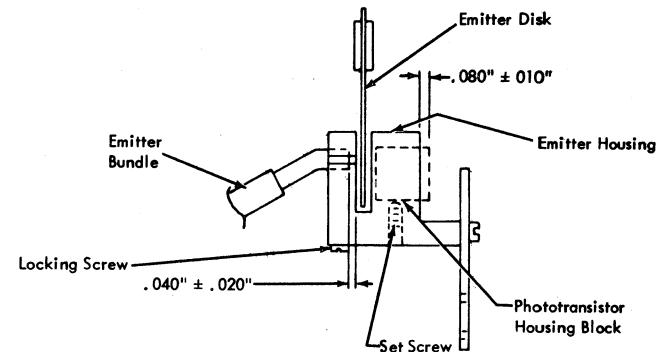

Figure 4-19. Emitter Bundle and Phototransistor Adjustment
1. Position bundle so bundle surface is recessed in emitter housing, $.040'' \pm .020''$ (Figure 4-19). The surface of the bundle must not protrude against the emitter disk.